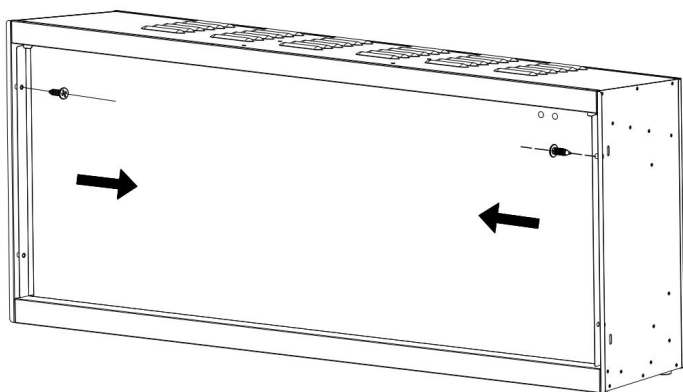

Fig. 2-1
A. With the front trim removed, take off the screws on both side.(Fig. 2-1)